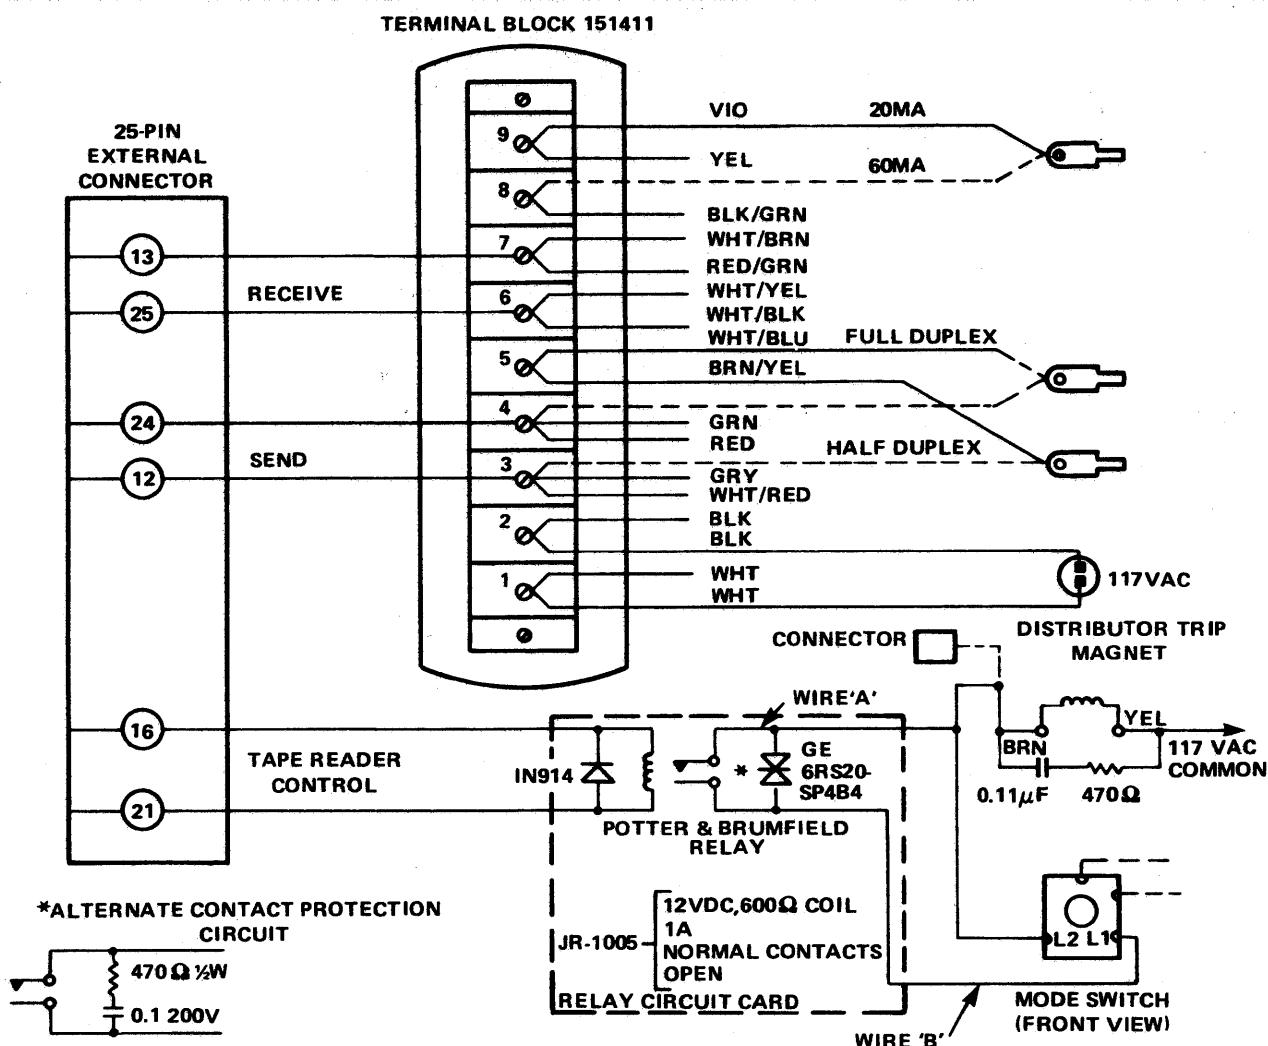
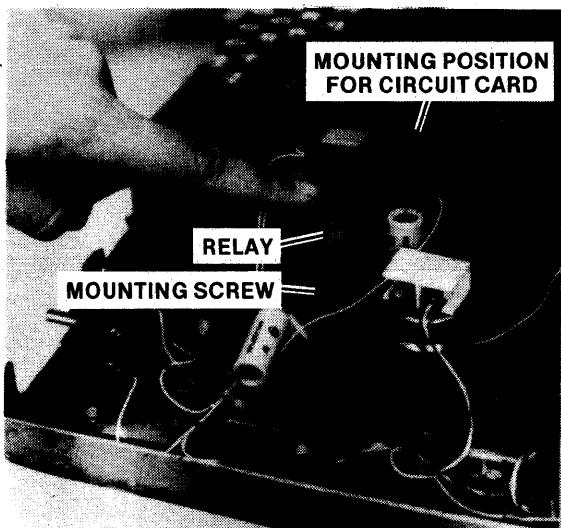
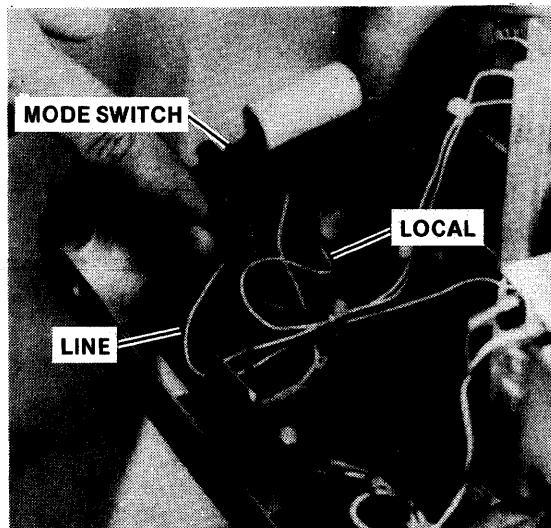

Figure C-4. Teletypewriter Modifications
Figure C-5. Relay Circuit
Figure C-6. Mode Switch
A circuit diagram of the relay circuit card is included in figure C-4; this diagram also includes the part numbers of the relay, diode, and thyrauctor. (Note that a 470- ohm resistor and a  $0.1\mu F$  capacitor may be substituted for the thyrauctor.) After the relay circuit card has been assembled, mount it in position as shown in figure C-5. Secure the card to the base plate using two self-tapping screws. Connect the relay circuit to the distributor trip magnet and mode switch as follows:
1. Refer to figure C-4 and connect a wire (Wire A) from relay circuit card to terminal L2 on mode switch (see figure C-6).
3. Refer to figure C-4 and connect a wire (Wire B) from relay circuit board to terminal L1 on mode switch.
Connect a two-wire receive loop, a two-wire send loop, and a two-wire tape reader control loop to the external device as shown in figure C-4. The external connector pin numbers shown in figure C-4 are for serial channel 1 on the Intellec Series III system.